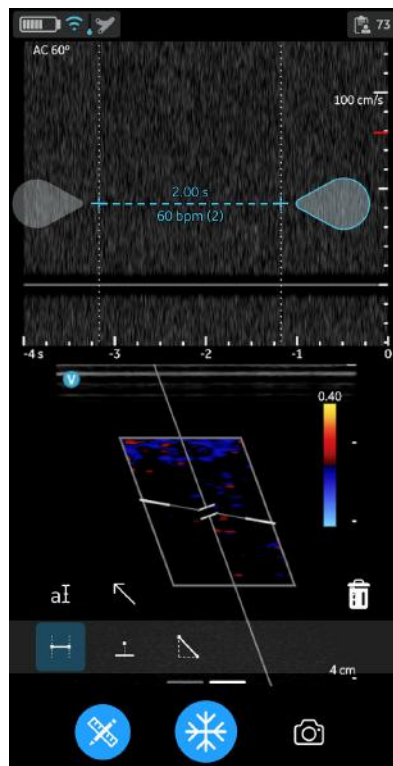

Figure 5-35. Time interval - PW-mode
4. The system displays the time measurement and the corresponding calculated heart rate. The number of beats used for the heart rate calculation is listed with the calculated heart rate. Example 60 bpm (2) refer Figure 5-35